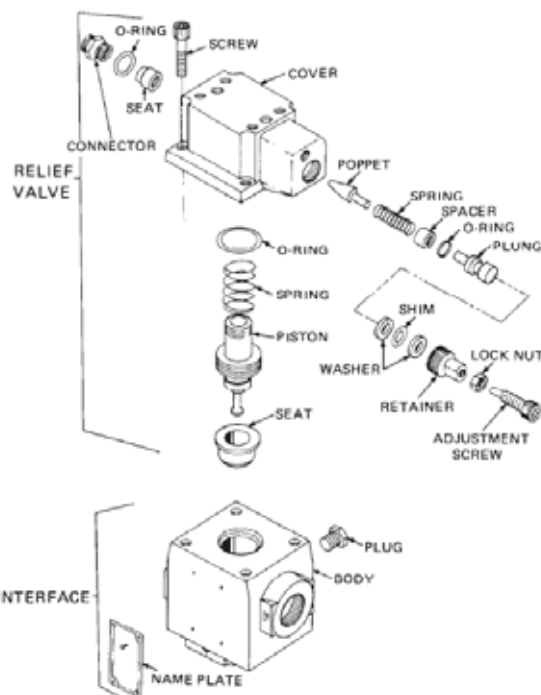

Figure 13 Relief Valve and Interface Assembly – Exploded View
41. The relief valve and interface assembly controls the direction of flow of pressurized hydraulic fluid either to the hydraulic motor or to the oil reservoir as directed by the solenoid operated control valve. An exploded view of the relief valve and interface assembly is show in Figure 13. For a detailed description of the operation of the relief valve and interface assembly, together with the solenoid operated control valve, refer to Para 46 to 48.